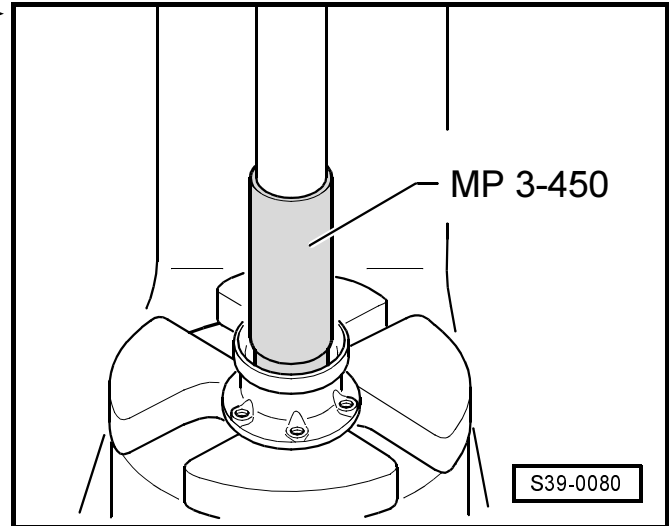

Fig. 9: Press out the differential bevel gear shaft ▶
- pressing out ⇒ Fig. 9 in **39-2** page 6